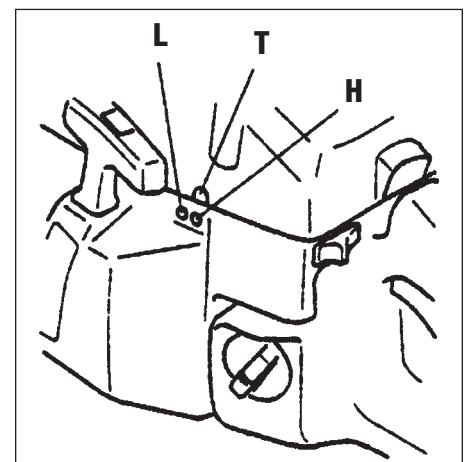

Figure 5. The carburetor may have adjustment screws for low speed (L), high speed (H), and idle (T).
2. Balance the high (H) and low (L) rpm screws to manufacturer's specifications (Figure 5). Warm up the saw and run it at top speed, listening for a flutter or "four-stroking" sound. Turning the H screw clockwise will reduce the fuel mixture, making the saw "scream." From this point, gradually turn the screw counterclockwise until the flutter point is reached. Note: Running the saw on too lean a fuel mixture will ruin the engine.
3. Let the saw come to idle and check that the chain stops rotating. If the chain is still spinning, turn the throttle (T) screw (Figure 5) counterclockwise until the chain does not rotate while the saw idles.